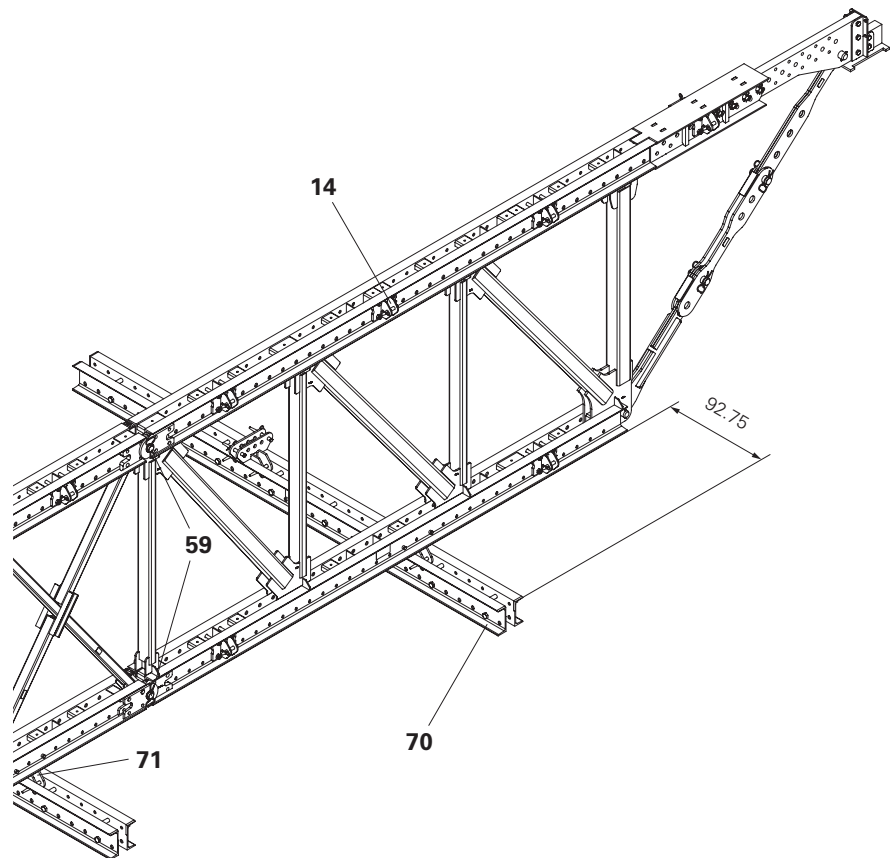

Fig. G3.01
- Position climbing rails (**70**) on the dismantling area. Ensure that each frame element is supported by at least one climbing rail. (Fig. G3.01)